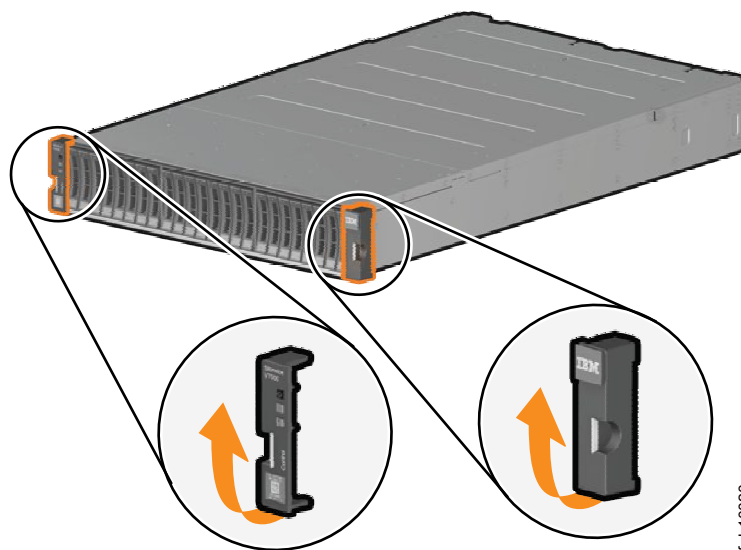

Figure 17. Removing enclosure end caps
1. On either side of the drive assemblies, remove the enclosure end caps by grasping the handle and pulling the bottom of the end cap free, then clearing the tab on the top of the enclosure. (See Figure 17.)